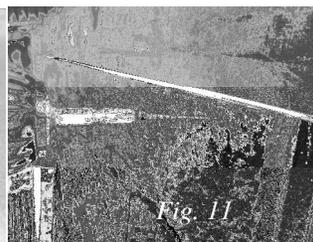
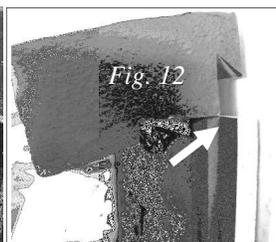

Fig. 11
Fig. 12
2. Face screw the panel (Fig. 11), so the ledger fits flush on top. (Fig. 12) The ledger should hide the heads.